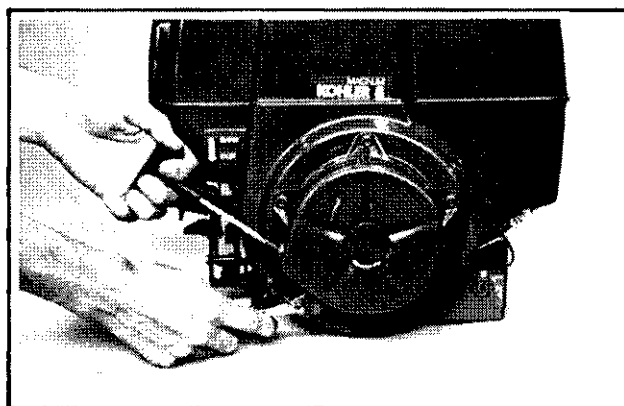

Figure 7-1. Installing Retractable Starter.
2. Pull the handle out approx. 8 to 10" until the pawls engage in the drive cup. Hold the handle in this position and tighten the screws securely. Refer to Figure 7-1.